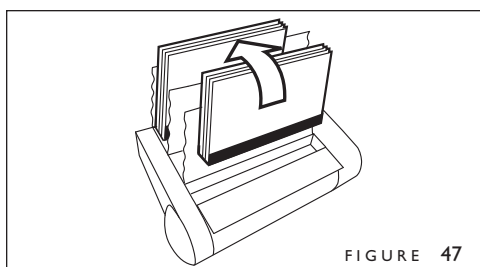

FIGURE 47
8. As soon as the display flashes "REMOVE BOOK," pick up the document and place it against a rear book support fence (figure 47).